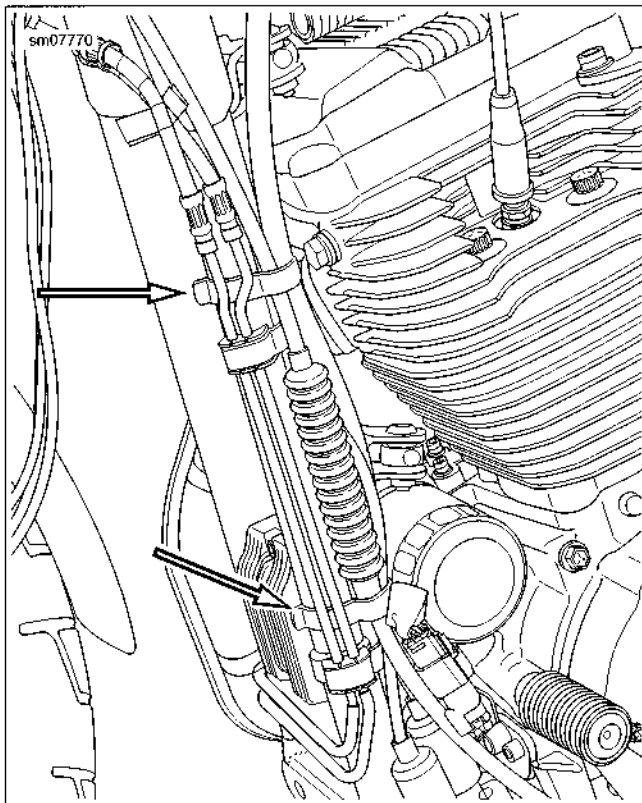

Figure 1-18. Frame Retaining Clips
2. See Figure 1-18. Remove cable adjuster from the frame retaining clips.